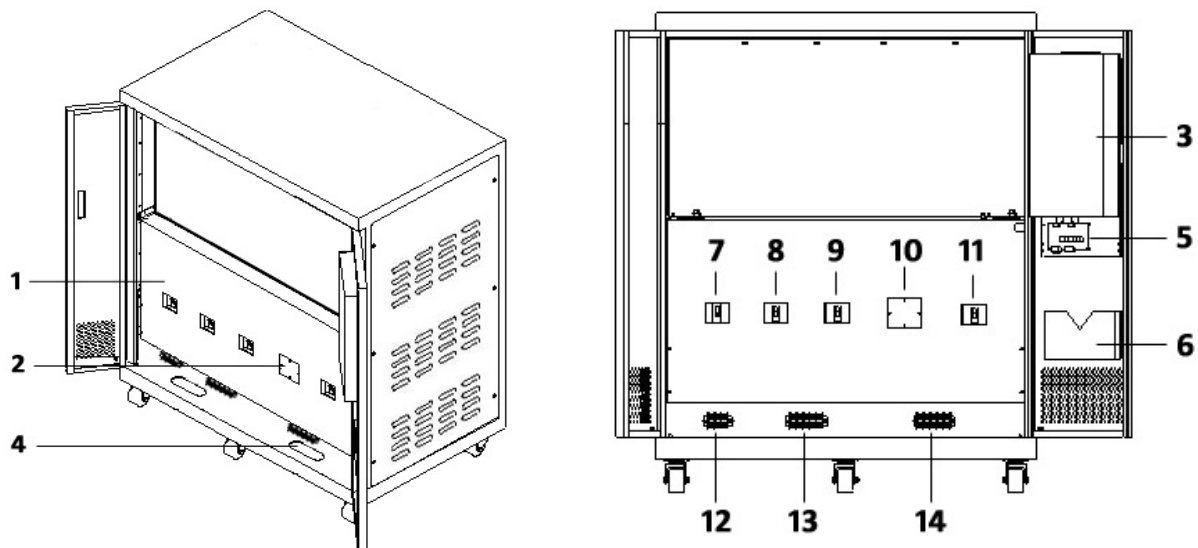

Figure 4 : Front Door Opened
1. Open the UPS front door and check five N.F.B.s (see Figure 4) are at 「OFF」 position.
4. Switch on external battery bank N.F.B. and UPS 「7. Battery Input N.F.B.」 (see Figure 4).
8. Switch off external battery bank N.F.B. and UPS 「7. Battery Input N.F.B.」 and check again the external battery bank N.F.B. and five N.F.B.s of the UPS (see Figure 4) are at 「OFF」 position then start to install the UPS.
Please make sure five N.F.B.s of the UPS (see Figure 4) are at 「 OFF 」 position.
Please make sure the power that will be supplied to the external battery terminal block and input terminal block (see Figure 4) of the UPS are completely cut off.